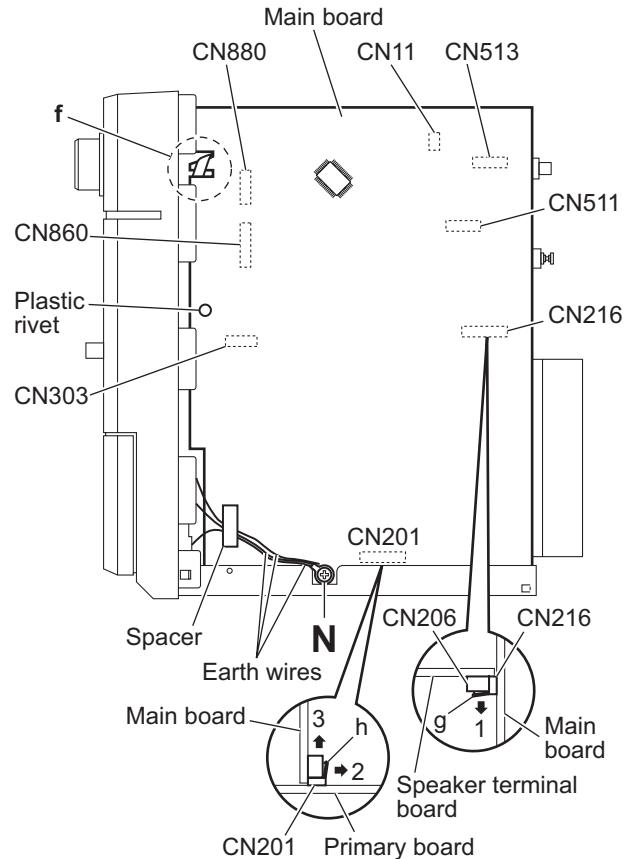

Fig.14
(See Figs.14 and 15)
- (1) From the right side of the main body, remove the screw **N** attaching the earth wires on the reverse side of the main board. (See Fig.14.)
After attaching the earth wires, fix them with a spacer as before. (See Fig.14.)
- (2) Remove the plastic rivet attaching the main board. (See Fig.14.)
- (3) From the inside of the main body, disconnect the card wires from the connectors (CN11, CN303, CN511, CN513, CN860, CN880) on the forward side of the main board. (See Figs.14 and 15.)
When reassembly, pass the card wire through the section **f** of the main board before connecting the card wire to the connector CN11. (See Fig.14.)
- (6) Release the lock **g** of the connector CN216 on the main board in the direction of the arrow 1 and disconnect the main board from the connector CN216 on the speaker terminal board toward this side. (See Fig.14.)
When releasing the lock **g** of the connector CN216, take care not to break the lock. (See Fig.14.)
- (7) Release the lock **h** of the connector CN201 on the primary board in the direction of the arrow 2 and disconnect the main board from the connector CN201 in the direction of the arrow 3. (See Fig.14.)
When releasing the lock **h** of the connector CN201, take care not to break the lock. (See Fig.14.)